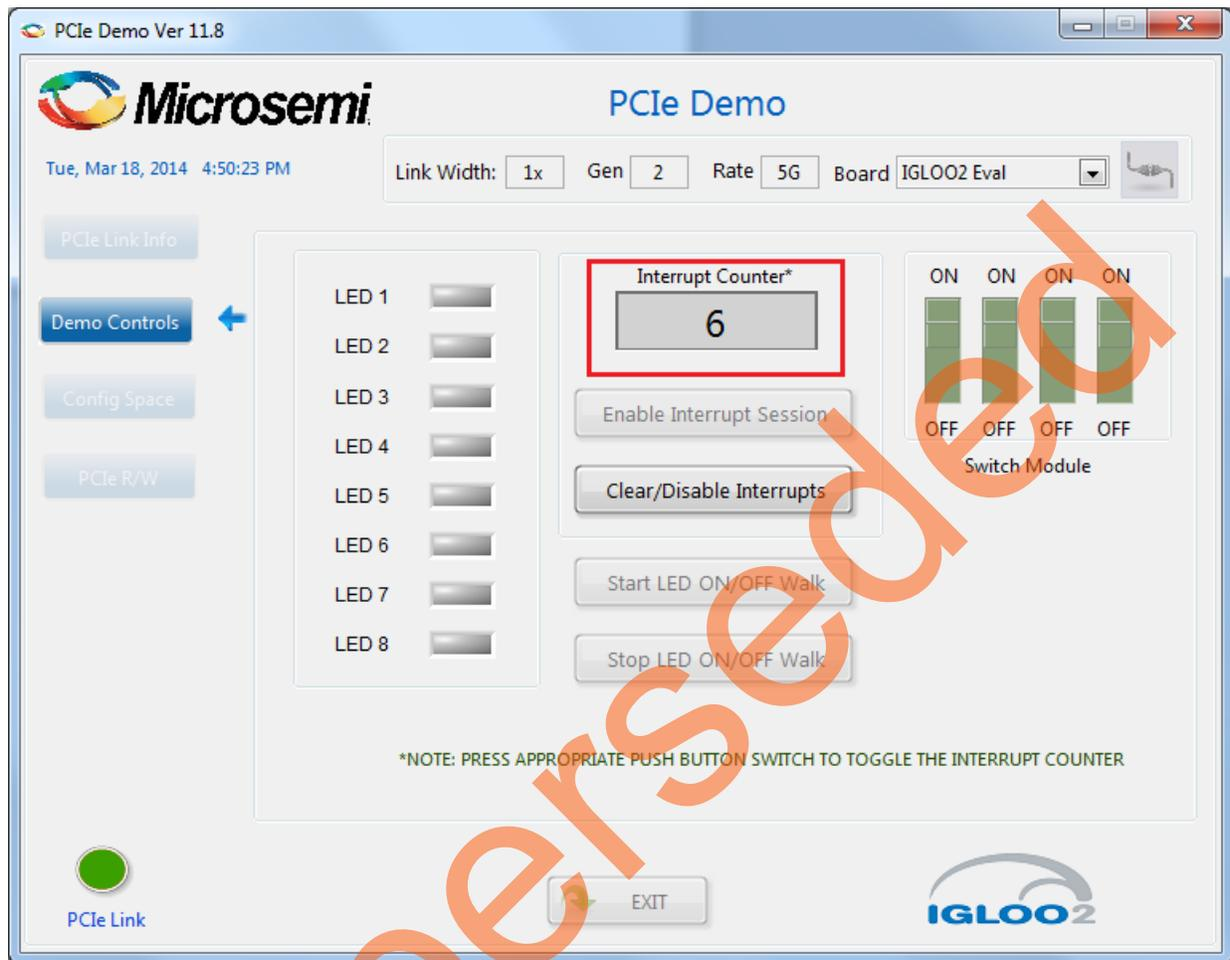

Figure 63 • Interrupt Counter
10. Press the push button **SW4** on the IGLOO2 Evaluation Kit board and observe the interrupt count on the **Interrupt Counter** field in the GUI as shown in Figure 63.